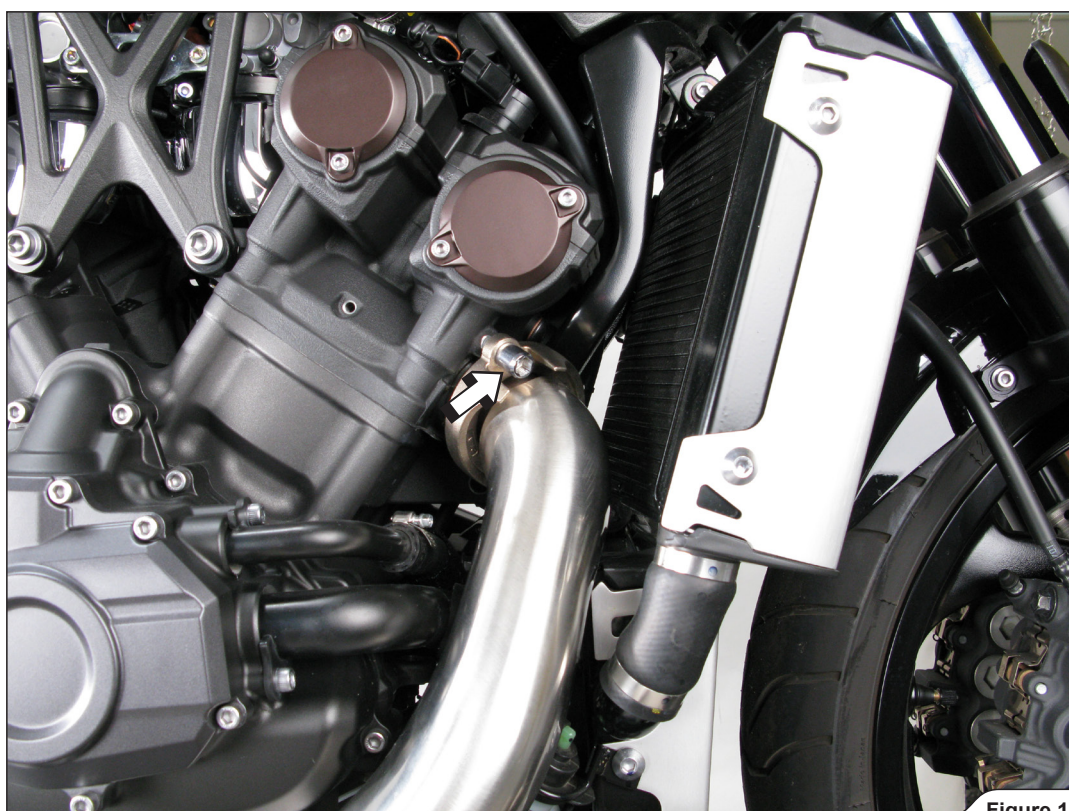

Figure 18
16. **For OPEN SLIP-ON only:** loosen up the nuts of the front header tubes (**Figure 18**).